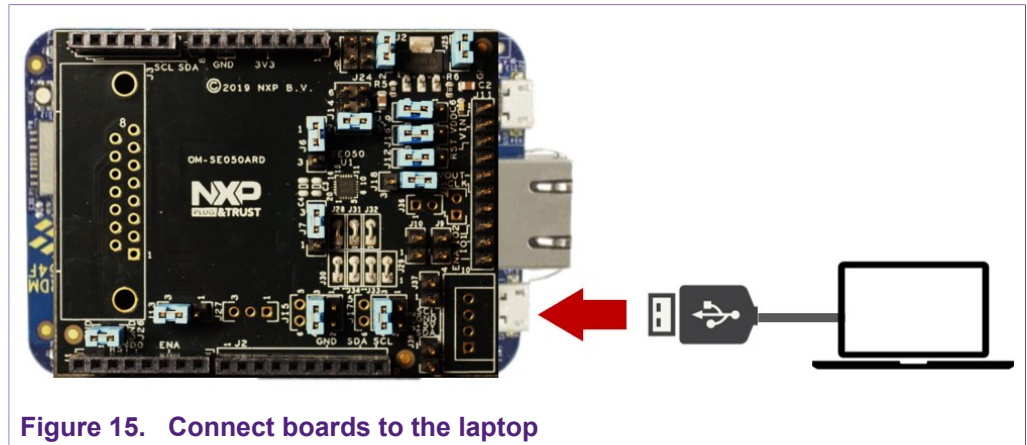

Figure 15. Connect boards to the laptop
1. Attach a USB cable from the computer to the K64F OpenSDA debug USB connector as shown in Figure 15.